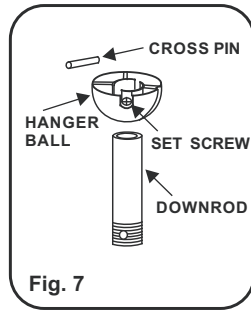

Fig. 7
**Step 3.** Remove hanger ball from downrod assembly by loosening set screw, removing the cross pin, and sliding ball off rod.(Fig 7)